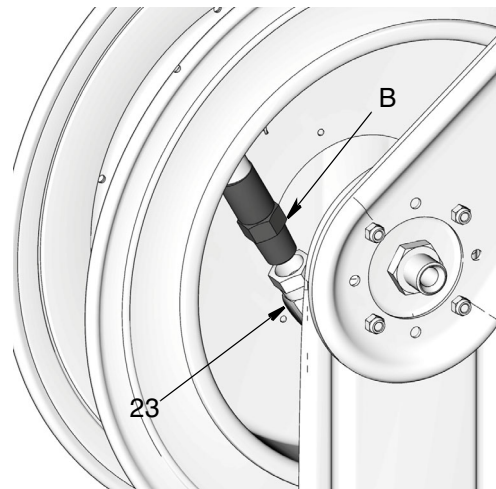

FIG. 4
4. Disconnect hose fitting (B) from swivel fitting (23) (FIG. 4).